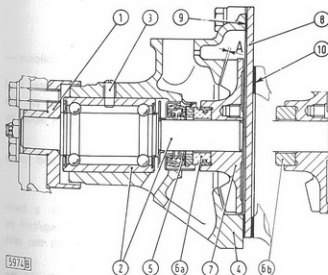

Fig. 92 - Section through the Water Pump
- Remove cover (8, Fig. 92) and shaft retaining screw (3).
Take off water seal (5, Fig. 92) only if replacement is necessary, i.e. if the carbon face in contact with the
- Bearing (2, Fig. 92) is sealed and does not require lubrication.
- Impellor (7) must be fitted flush with the end of the shaft. Also, on completion of reassembly check the clearance between impellor and pump body. The correct clearance (A, Figs. 92 and 93) is 1 to 1.25 mm. (.04 to .05 in.).